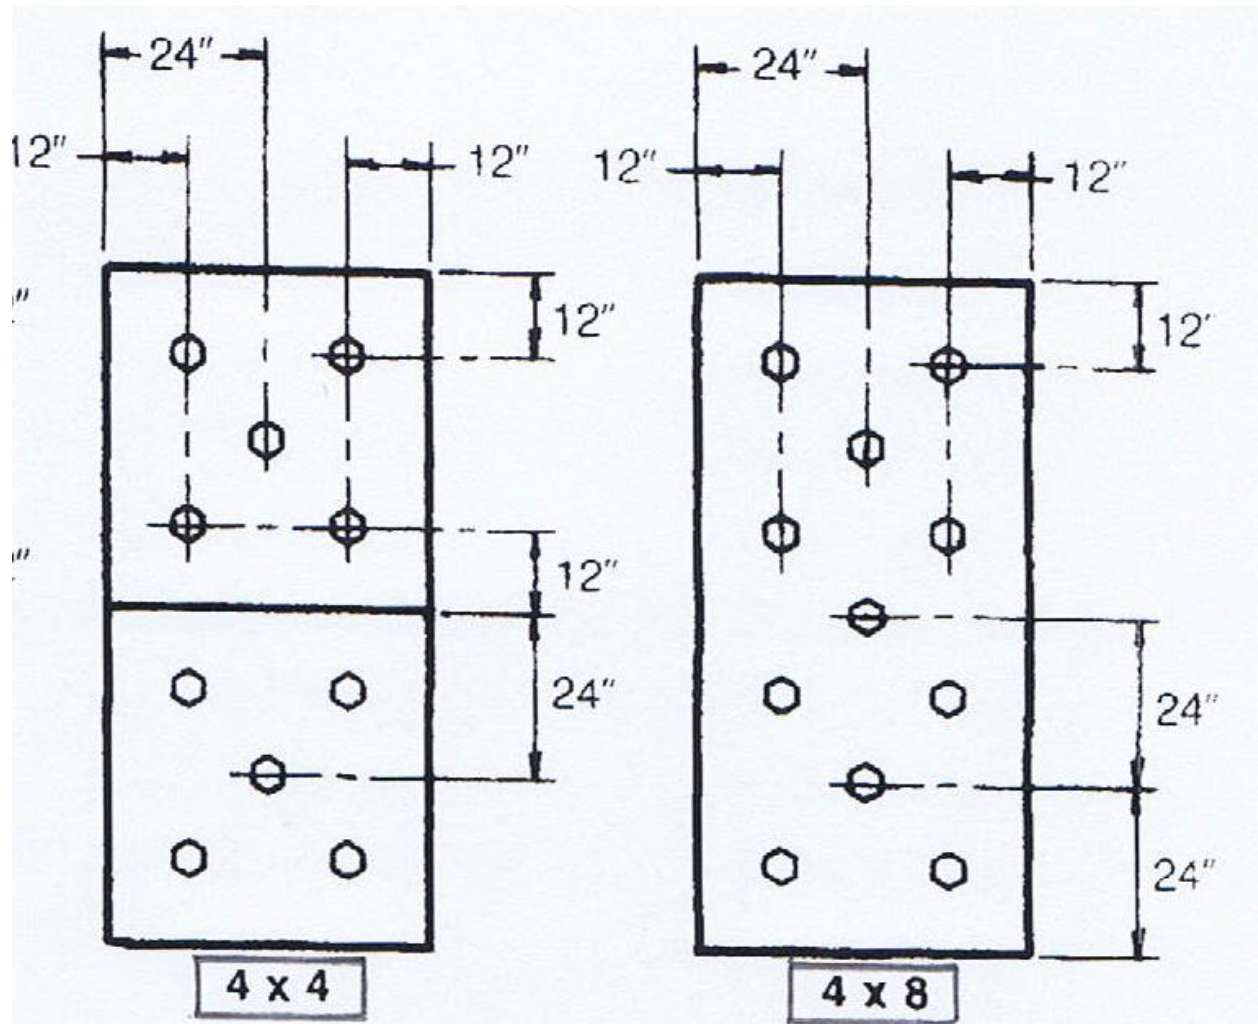

Figure 1. Insulation Fastening Patterns
Insulation: 3" rigid insulation, H-Shield roof installation by Hunter Panels. Installed over the steel deck. Secured to the steel deck with Dekfast No. 14 x 6" long insulation deck fasteners and Dekfast steel stress insulation plates. The insulation plates are 2-7/8" across the plate and can be hexagonal, square, or circular. Use a minimum of five (5) fasteners per 4x4 ft board or ten (10) fasteners per 4x8 ft board. The fasteners must have a minimum penetration of 5 threads through the bottom of the deck. Refer to Figure 1 for insulation fastening patterns.